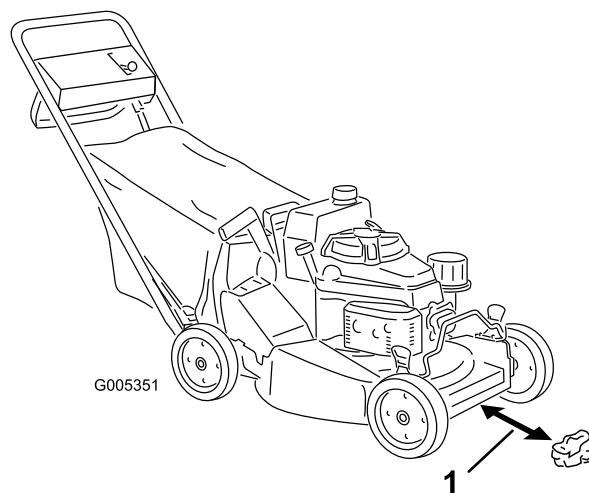
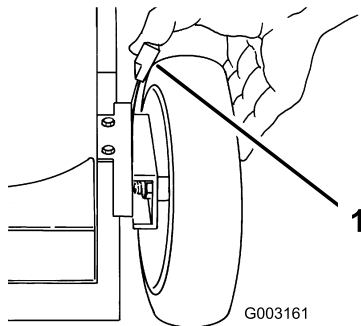

Figure 16
Figure 21
3. Set all 4 wheels in to the 2-1/2 inches (64 mm) cutting height setting (Figure 21).
4. Set the ground speed selector to the Neutral (N) position.
5. Take a half sheet of newspaper and crumple it into a ball small enough to go under the deck (about 3 inches or 76 mm in diameter) as shown in Figure 16.
6. Place the ball of newspaper 5 inches (12.7 cm) in front of the lawn mower (Figure 16).
- Place the ball of newspaper 5 inches (12.7 cm) in front of the lawn mower (Figure 16).
1. Pull the wheel height adjustment lever toward the wheel (Figure 21) and move it to the desired setting.